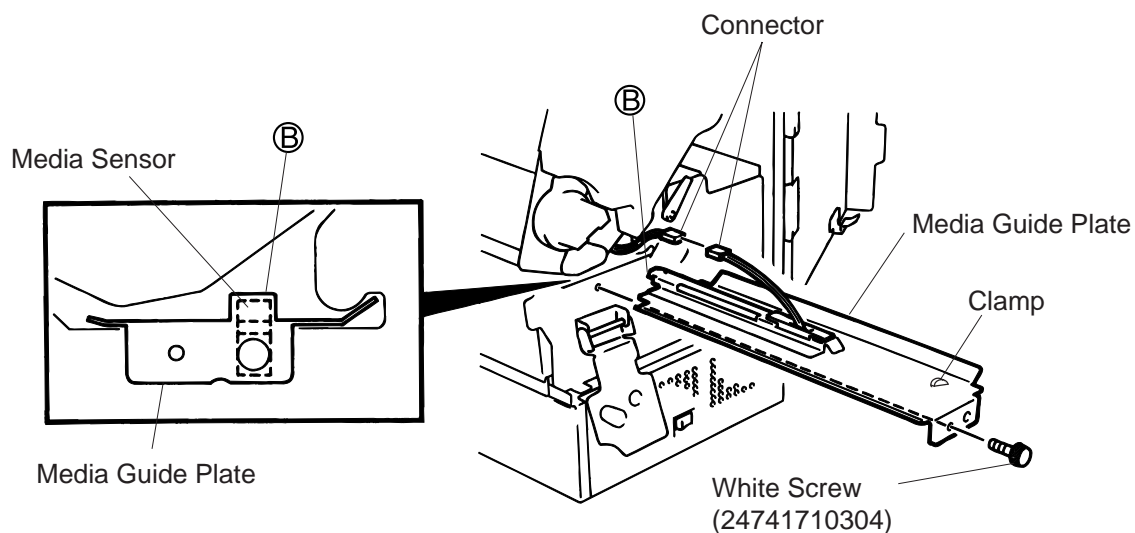

Fig. 12-5
4. Remove the white screw, unclamp and disconnect the connector of the media guide plate, and then detach the media guide plate. (See Fig. 12-5.)
8. Place the portion ② of the media guide plate on the media sensor. Secure the media guide plate with the white screw.